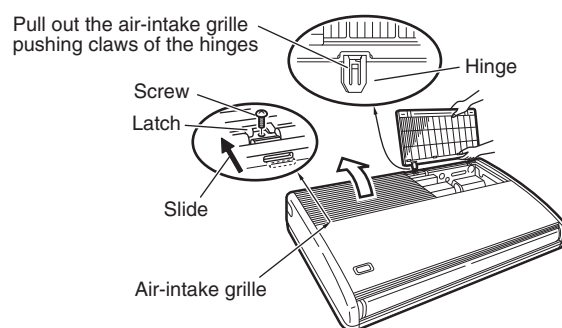
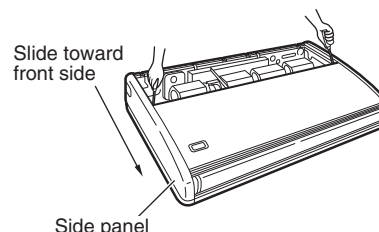

Fig. 3-9
Fig. 3-10
- (5) Before suspending the indoor unit, remove the 2 or 3 screws on the latch of the air-intake grilles, open the grilles, and remove them by pushing the claws of the hinges (Fig. 3-9). Then remove both side panels sliding them along the unit toward the front after removing the 2 attachment screws. (Fig. 3-10)